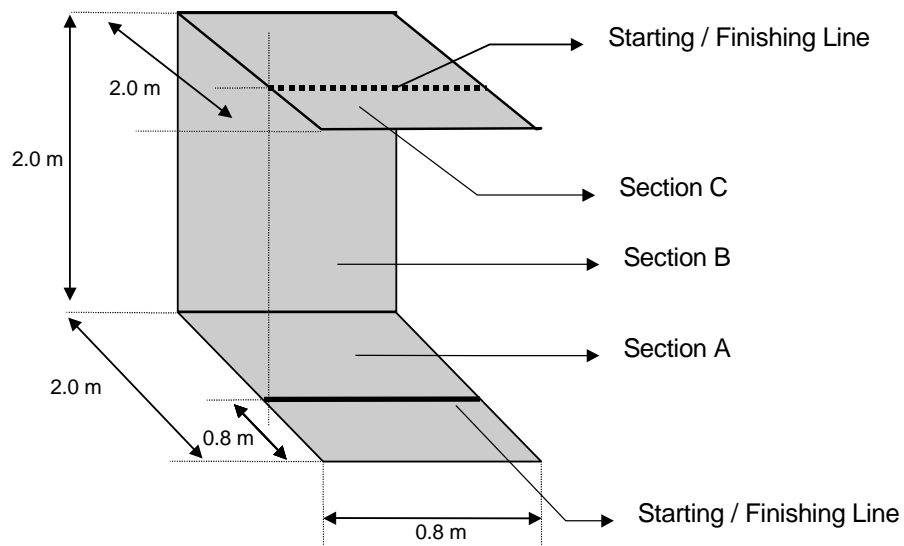

Figure 1: The wall for the wall-climbing robot race
- 2.1 The wall is shown in Figure 1 below. It consists of three sections: a 2 metre long horizontal section (section A) on the ground followed by a 2 metre high vertical section (section B) followed by a 2 metre long horizontal section (section C) at the top, with each section at least 0.8 metres wide (the organiser reserves the right to provide wall sections that are wider than 0.8 m).
- 2.4 The supporting structure for the wall will have provision for *two* safety cables to be attached to the robot so that both cables can be used simultaneously during the race (*not* shown in Figure 1.)
The wall will be deemed to have satisfied criteria (a) and (b) above and be considered fit for use if each of the two distances between diagonally opposite corners (using the side view in Figure 1) lies in the range 2733 mm to 2847 mm.